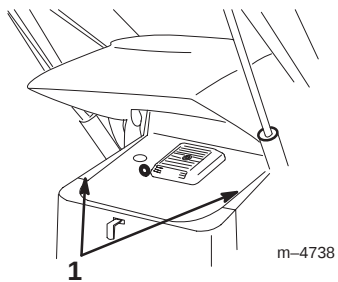

Figure 19
- Slide the side screens (Fig. 19) up and out of the slots in the front screen and frame.
Slide the side screens (Fig. 19) into place in the slots in the front screen and frame.